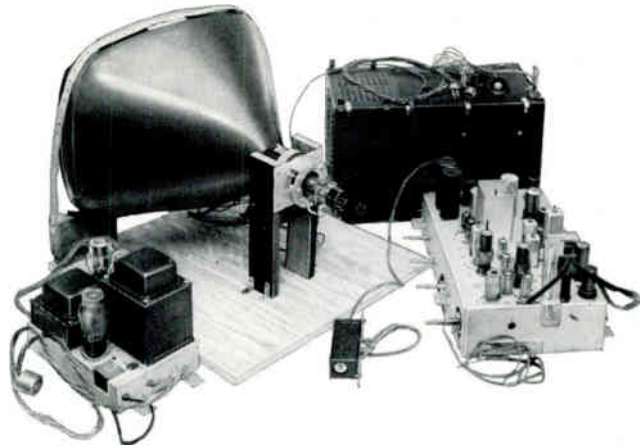

Fig. 7. General Electric 20CP4 picture tube mounted and assembled with other chassis before installing in wall as shown in Fig. 6.
12. The 20CP4 picture tube was mounted on a piece of half inch plywood. Two pieces of 2 in. x 4 in. were cut out to hold the front of the picture tube, and pieces of sponge rubber were cemented to each top area to provide a shock mounting. The two side pieces which were used to support the deflection yoke were used to mount the Focalizer. A small piece of steel strap was used to hold the deflection yoke in place, and a longer piece was used to secure the picture tube. These can be seen in Fig. 7.